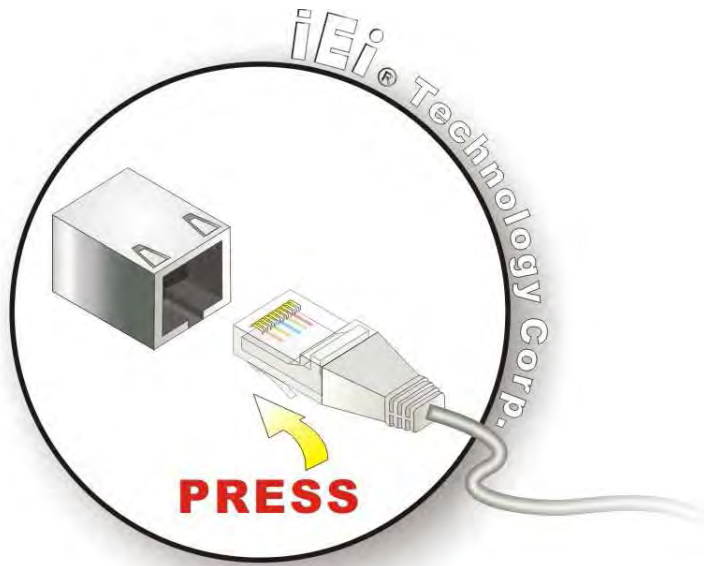

Figure 4-8: LAN Connection
Step 1: Align the connectors. Align the RJ-45 connector on the LAN cable with one of the RJ-45 connectors on the IOVU-570M. See Figure 4-8.